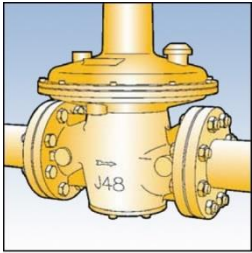

Fig. 1
7. The direction of gas flow must be the same as arrow on regulator body. See Fig.1.